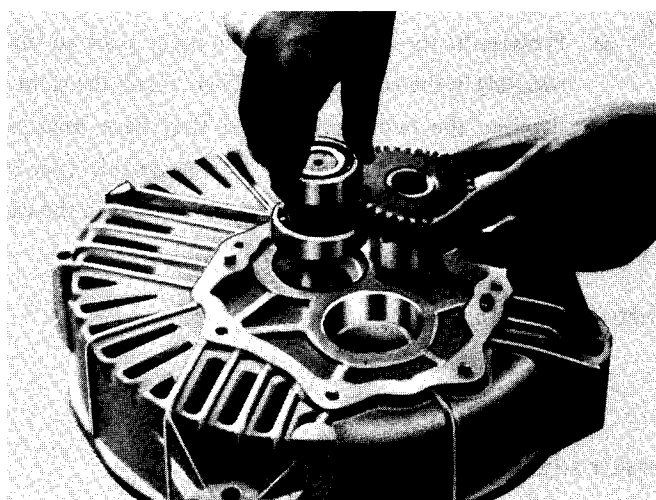

Fig. 12-7
- e) Set the gear A and the gear B in the adaptor, under the condition that their teeth are engaged in each other. (See Fig. 12-7.)